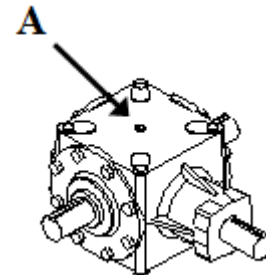

Figure 11-6: Gearbox Oil Level
Gearbox oil levels should be checked routinely and filled to line (A) shown in Figure 11-6.